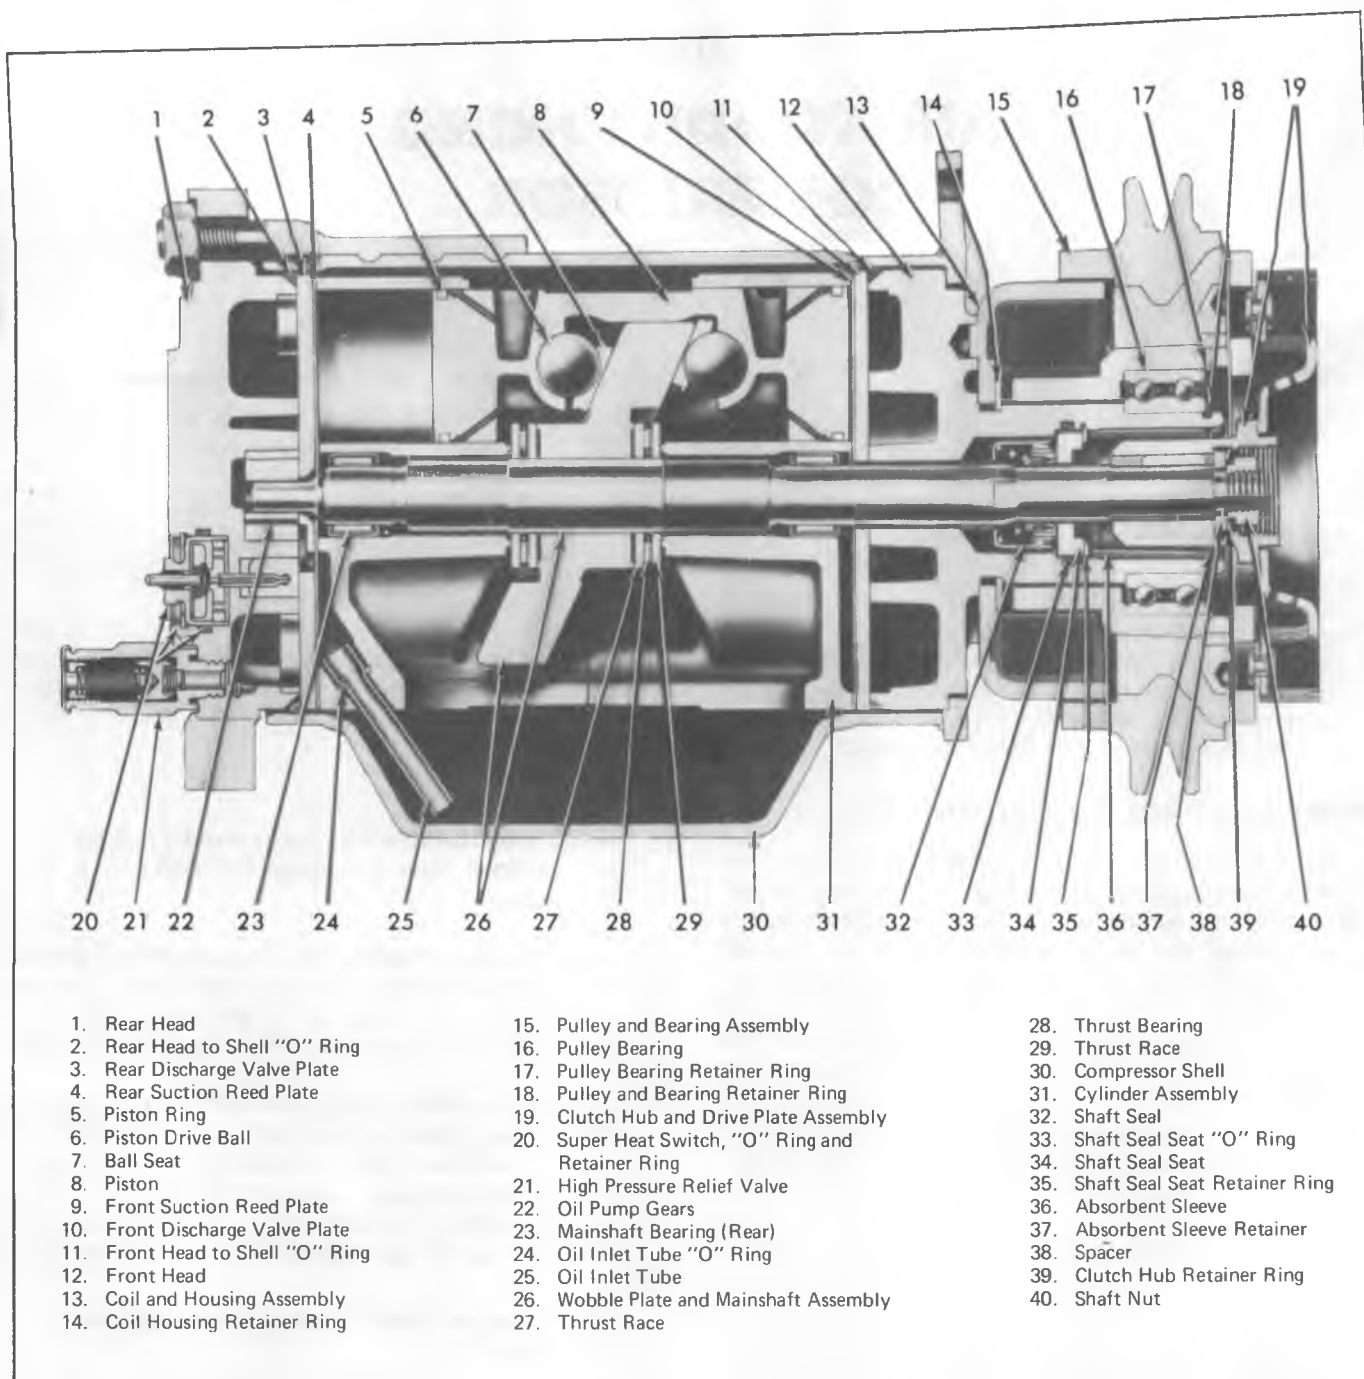

Fig. 1-Six Cylinder Compressor-Cross Sectional View
4. Use Snap Ring Pliers J-5403 to remove the retainer ring (Item 37, fig. 1). Then remove the hub spacer.
4. Install the hub spacer washer and, using Snap Ring Pliers J-5403, install the retainer ring (Item 37, fig. 1), convex side of ring facing washer.